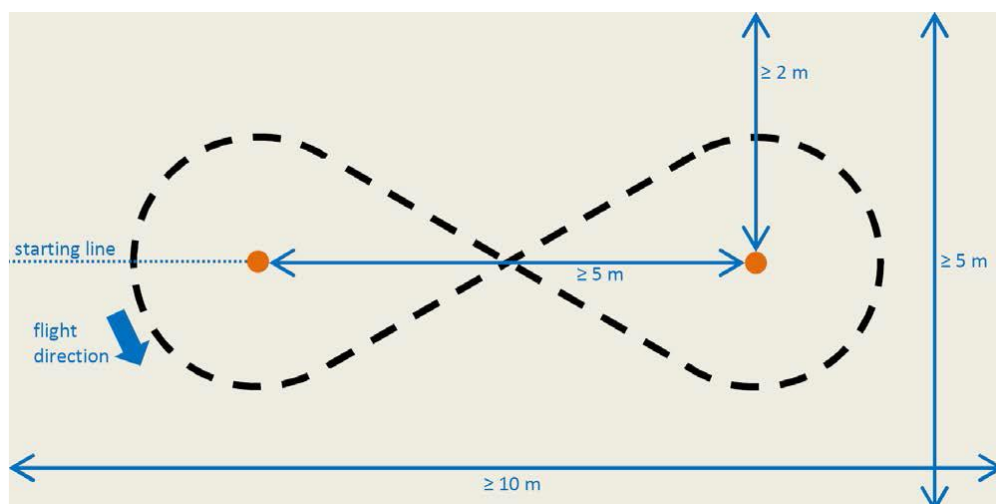

Figure 1: Air Race Field Layout (Top View)
- A. As shown in Figure 1, the competition field size is at least 10m long, 5m wide, and 3m high. It is covered by a safety net. Two red round poles are placed inside the field, at least 5m apart. The poles are 3m high with a diameter of 11cm. There must be at least 2m of clear space around each pole.